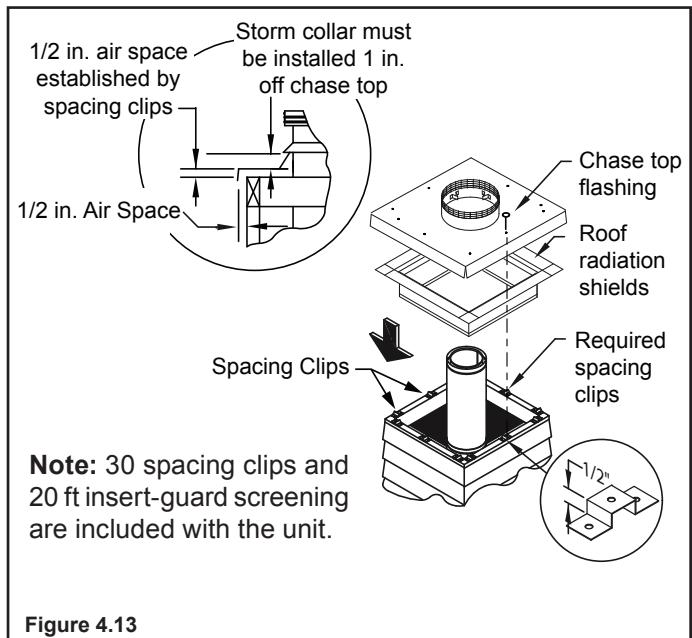

Figure 4.13
- If the chase top flashing (40 in. x 40 in.) does not ensure the minimum 1/2 in. spacing and perimeter ventilation requirements as shown in Figure 4.13., use a chase top collar and field-construct the flashing as needed for the chase dimensions. Skip to **Field-Constructed Chase Top Flashing**.
- Install the chase top flashing at the top of the chase with a 1/2 in. minimum air clearance off the top of the chase construction (Figure 4.13).
- Spacing clips can be field-fabricated as needed out of 24 GA sheet metal or other suitable non-combustible material (refer to Figure 4.13)